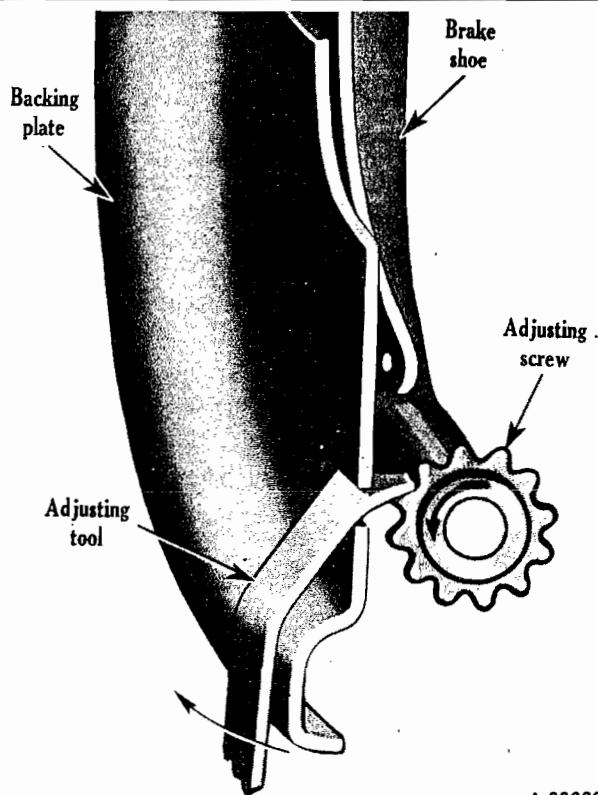

Fig. 5
4. Insert screw driver or special adjusting tool in slot of backing plate to engage star wheel adjusting screw (Fig. 5).